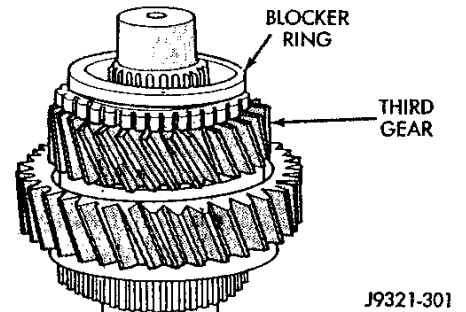

Fig. 39 Third Gear And Blocker Ring Installation
(6) Install bearing in third gear. Then install gear on output shaft (Fig. 39).
(7) Install synchro ring in third gear (Fig. 39).